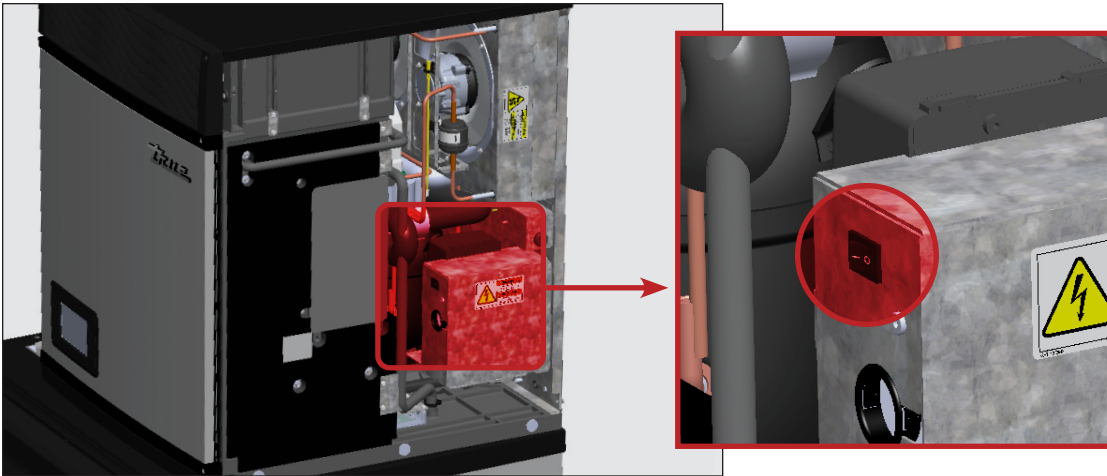

Fig. 2. Rocker switch location. Rocker switch disconnects power from the control board and front display; it DOES NOT disconnect power from the entire unit.
- Ice machines come equipped with a rocker switch. See location in fig. 2.